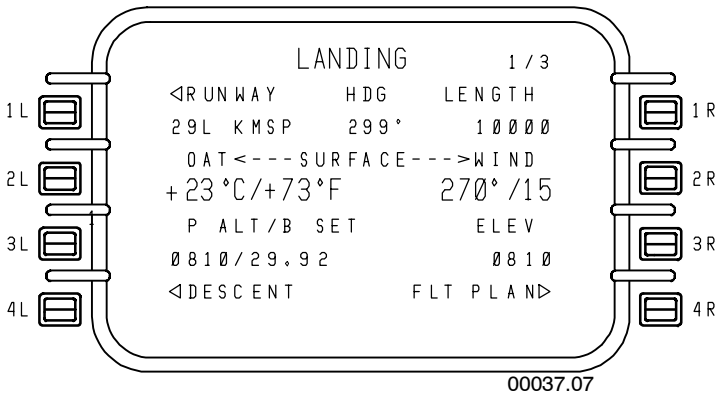

Figure 5-35
- **LANDING 1/3** – Figure 5-35 displays data base information about the arrival runway if one has been selected.